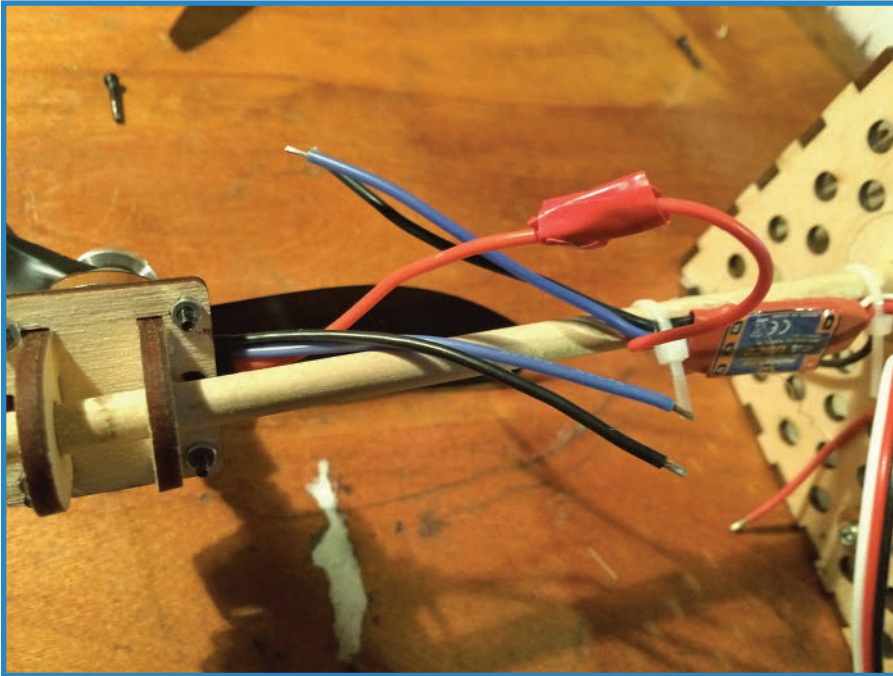

FIGURE 7.18 The three motor wires connect to the matching wires on the ESCs.
- a. Twist together the red, blue, and black motor wires to the matching wires on the ESC. Figure 7.18 shows how the red one is done.